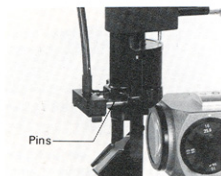

Fig. 61
(1) Insert the pins of the background illuminator into receptacles at the lower end of the illumination section. (See Fig. 61)